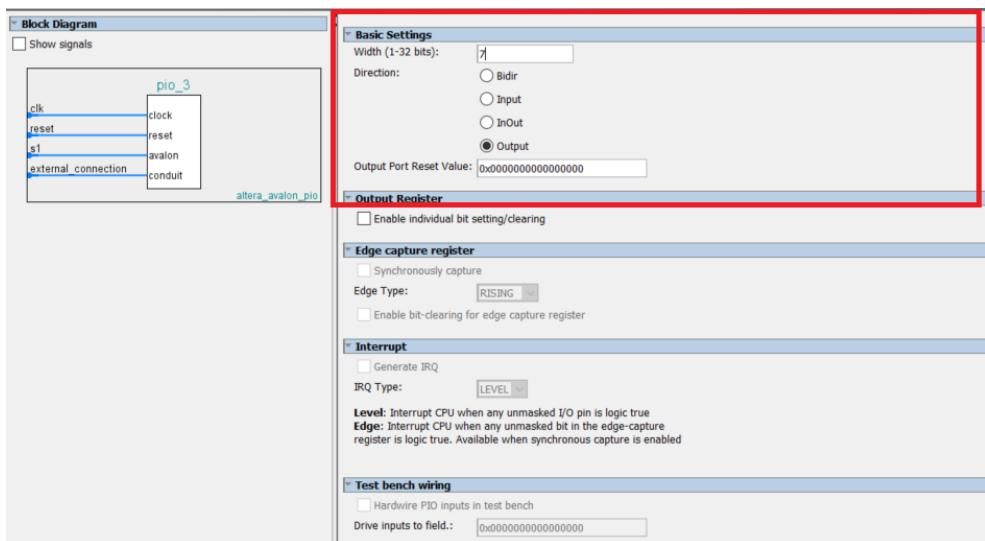

Figure 18: Parallel IO Configuration Panel for Seven-Segment Display Outputs
- When you have setup your seven segment display output component interface as in Figure 18, click **Finish**.